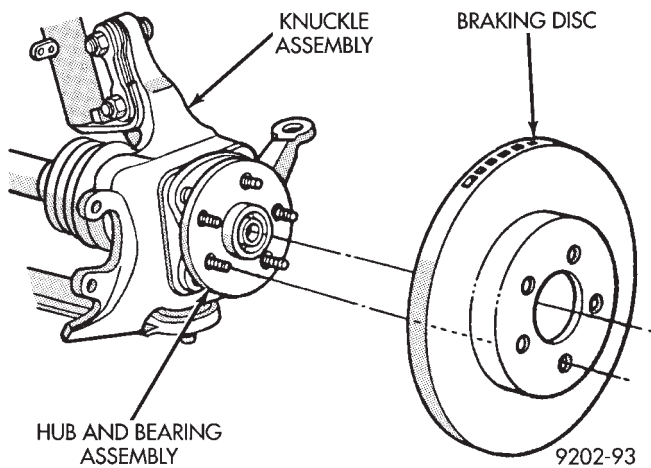

Fig. 5 Remove or Install Braking Disc
(6) Remove the braking disc from the front hub/bearing assembly (Fig. 5).